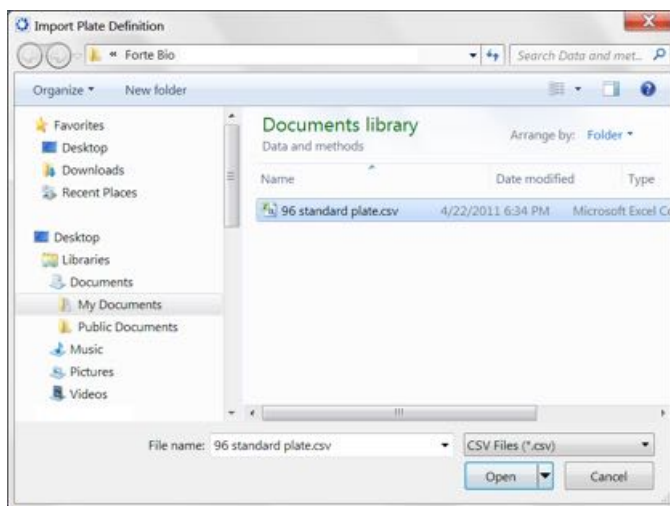

Figure 8-22: Import Plate Definition Window
2. In the **Import Plate Definition** window (see Figure 8-22), select the plate definition (.csv), and click **Open**.